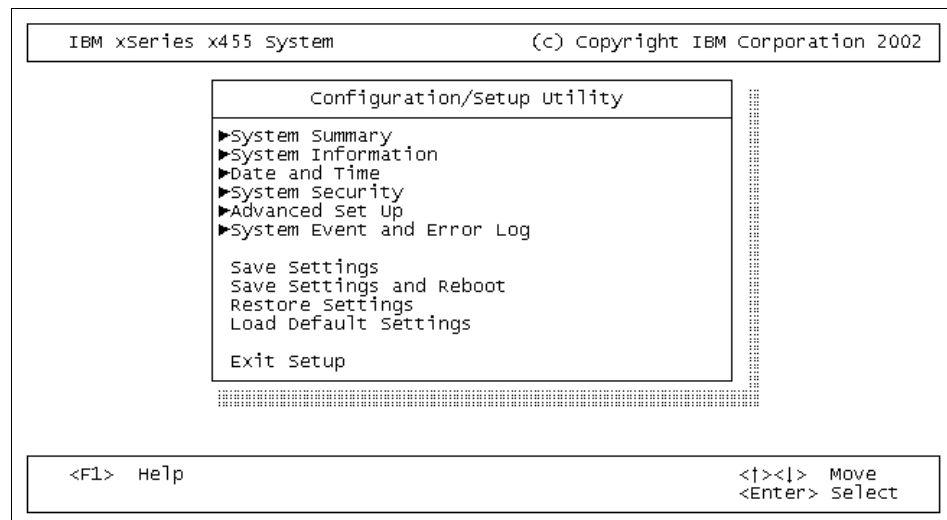

Figure 4-22 Configuration and Setup utility
Select **Configuration and Setup Utility** from the EFI Firmware Boot Manager menu (see Figure 4-2 on page 94) to configure internal options. Figure 4-22 is displayed.
2. Start the Setup program by selecting the **Configuration/Setup Utility** from the EFI Firmware Boot Manager menu. Figure 4-22 on page 118 appears.